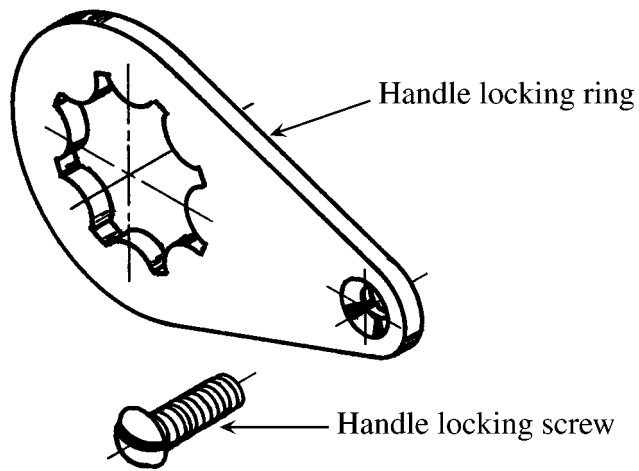

FIG. 5
- (c) Figure 5 shows a handle locking ring and handle locking screw.